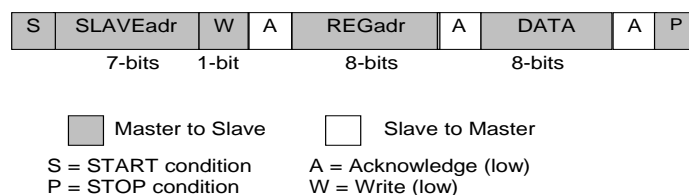

Figure 10: I²C Byte Write (SDA Line)
The I²C bus is monitored for a valid slave address whenever the interface is enabled. It responds immediately when it receives its own slave address. The acknowledge is done by pulling the SDA line low during the following clock cycle (white blocks marked with A in Figure 10 and Figure 11).
The protocol for a register write from master to slave consists of a START condition, a slave address with read/write bit, and the eight-bit register address followed by eight bits of data, terminated by a STOP condition. DA9141-A responds to all bytes with acknowledge (A), see Figure 10.